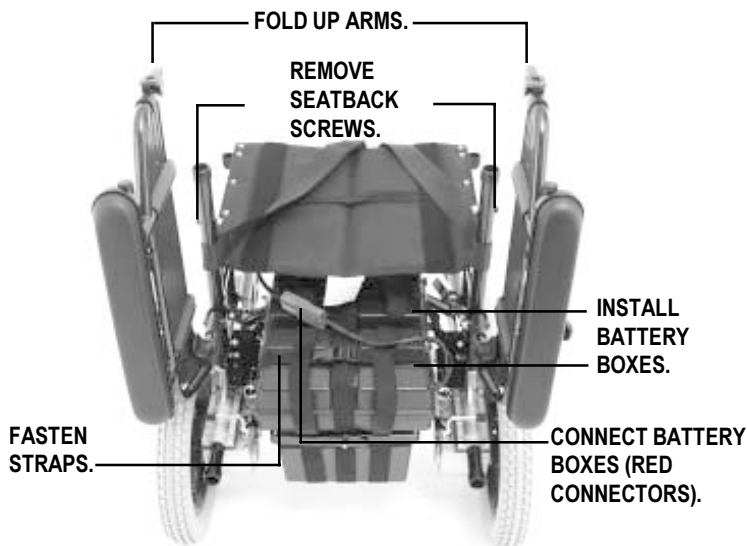

Figure 6. Pride LX Back View
5. Install the battery boxes into the battery frame. Make sure that both main circuit breakers are on the right side of the base assembly. Connect the two red connectors. Connect the straps to secure the battery boxes. Adjust for tightness as necessary. See figure 6.
6. Remove the plastic wrap from the seat posts and remove the seatback screws. See figure 6.